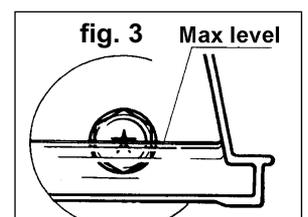

fig. 3 Max level
- 3.6. Confirm that the oil level is at the maximum mark on the sight glass (fig.3).